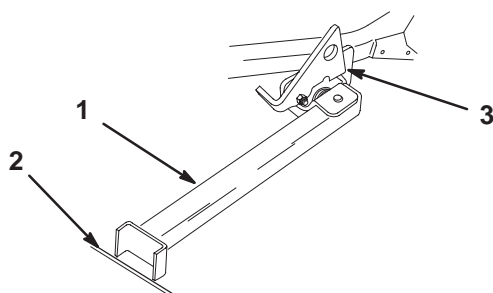

Figure 26
4. Set foot of stand on the ground and rest latch on pivot tab (Fig. 26).
Note: For best results, place foot of stand into seams in sidewalks or into turf (Fig. 26).
6. Drive onto stand. Stop when latch drops over tab into locked position (Fig. 26). Once onto stand, engage parking brake. Shut off engine.